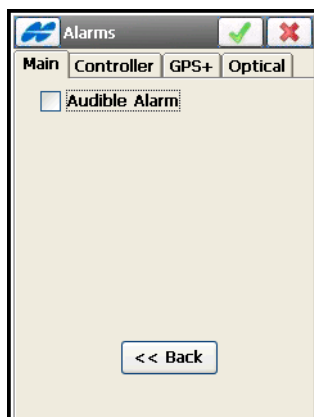

Figure 2-9. Alarms
- **Next** – opens the *Alarms* screen (see Figure 2-9).